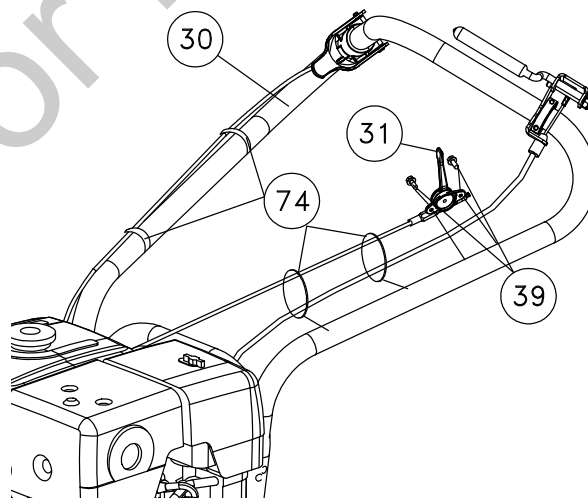

Fig. 2
2. The throttle control will be attached to the throttle arm on the engine and wrapped around the engine for shipping. Unwrap and secure throttle control (item #31) to upper handle with screws (item #39). Screws will already be mounted in handle. Simply remove and use to mount the throttle control. Secure the throttle cable and clutch cable with two Ty-wraps (item #74). The Aim-and-Shoot™ is not attached. You will need to unroll the cable and attach the ball end to the lever and seat the cable end into the hole on the saddle clamp, with the cable running through the slot. The clutch cable will also be wrapped up under the machine. Route the cable under the axle and attach it by removing the hitch pin and clevis pin and attaching it to the clutch control lever. After it is attached pull on the cable and slide it into the hole on the bracket so that it clicks into place. To keep the cable from being damaged use three ty-wraps (item #74) to secure it to the handle as shown, making sure that the cable is not rubbing against the tire. **NOTE:** the cable should be seated properly in the saddle and should follow the contours of the handle. (See Fig. 2 and 3)